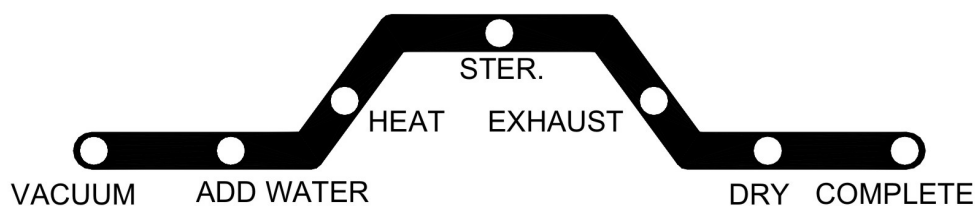

Figure 46
D. Press the START Button , the setting temperature, duration, and dry time displayed two times on the three-digit display, and then the sterilizer will automatically run through the selected program. The current progress of the sterilization cycle is indicated by the illuminated LED on the Process Status Indicator. (Figure 46)